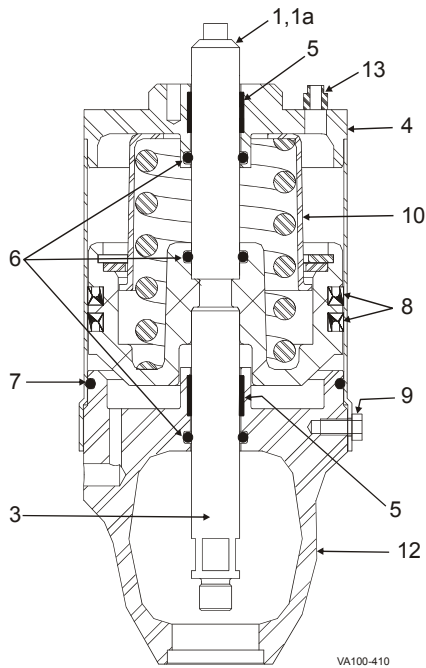

Figure 36: 4" and 5" Actuator
1. Inspect the piston U-cup seal (Figure 36, item 8).
2. Remove the worn U-cup seal. Do not score or nick grooves in the piston (item 10).
6. Place the cylinder over the yoke, and install cap screws (item 9) to secure it.